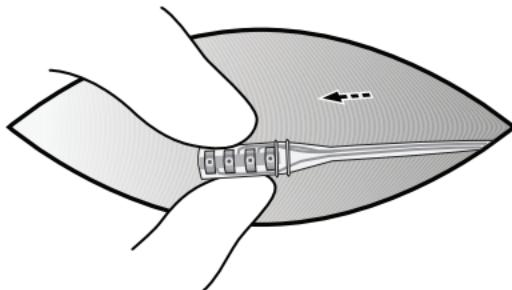

Figure 19. Withdraw the percutaneous extension and connector boot.
8. Withdraw the percutaneous extension and connector boot through the incision and discard the boot (Figure 19).